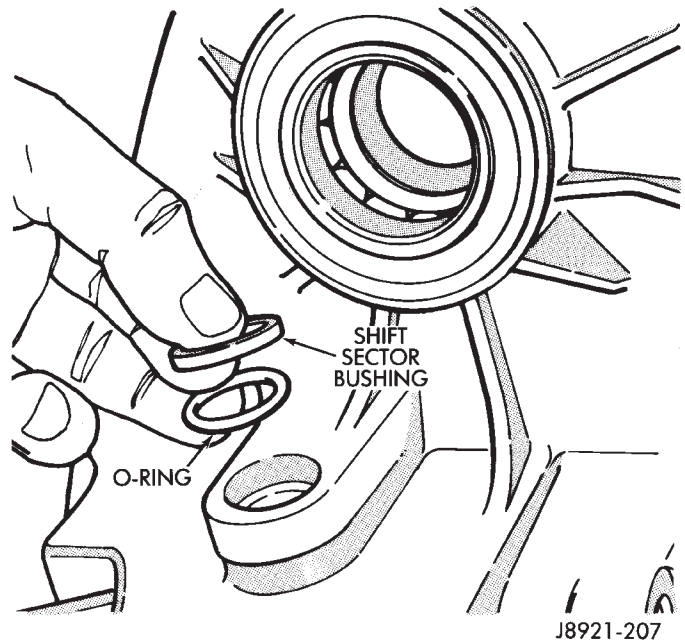

Fig. 30 Sector Bushing And O-Ring Removal
- (9) Remove shift sector bushing and O-ring (Fig. 30).